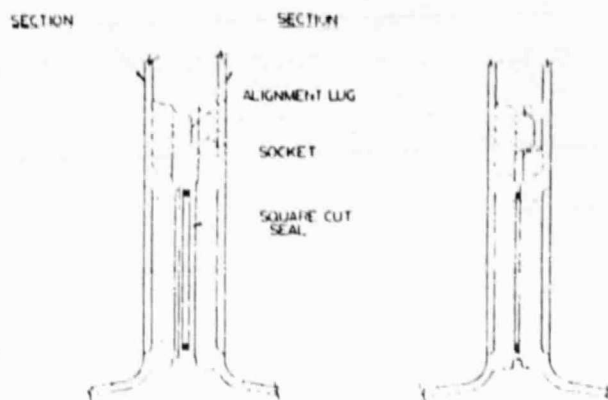

FIGURE 3
- Position the intermediate section (see Figure 3). Oil the threads of four (4) of the draw rods (5/8" x 9") and slip them through the lugs on the top and sides of each section. Place a washer (only one washer per draw rod) under each nut which is to be tightened, with a drop of oil between washer and nut.